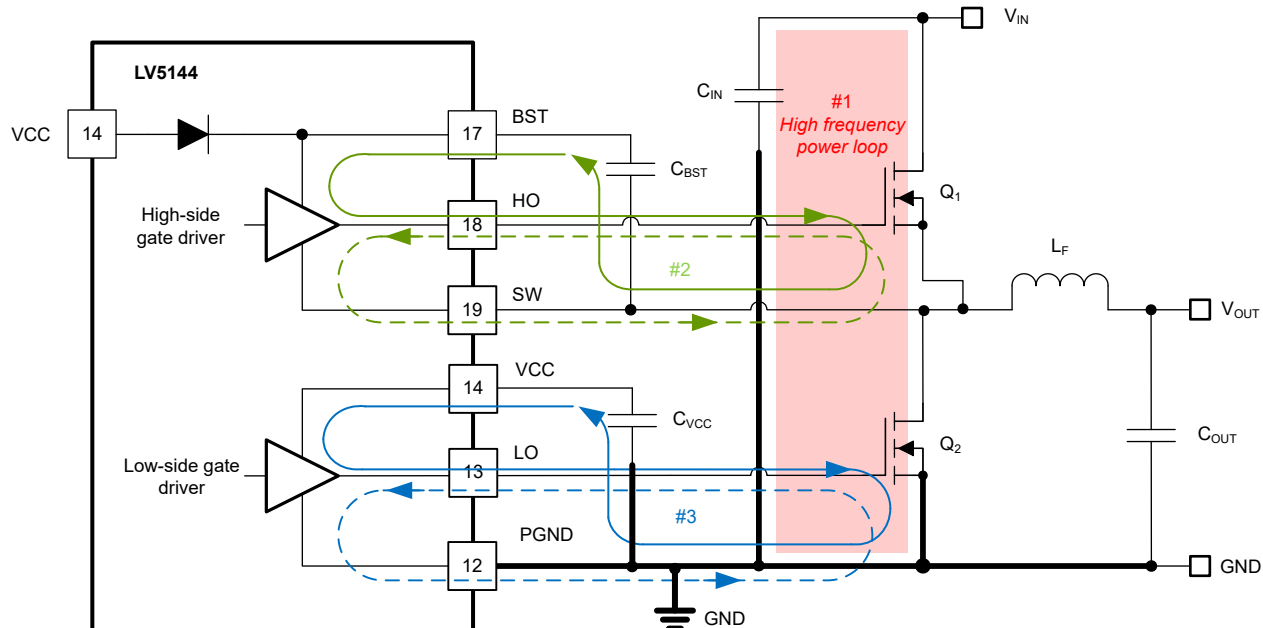

Figure 9-33. DC/DC Regulator Ground System With Power Stage and Gate Drive Circuit Switching Loops
Proper PCB design and layout is important in a high-current, fast-switching circuits (with high current and voltage slew rates) to assure appropriate device operation and design robustness. As expected, certain issues must be considered before designing a PCB layout using the LV5144. The high-frequency power loop of the buck converter power stage is denoted by #1 in the shaded area of Figure 9-33. The topological architecture of a buck converter means that particularly high di/dt current flows in the components of loop 1, and it becomes mandatory to reduce the parasitic inductance of this loop by minimizing its effective loop area. Also important is the gate drive loops of the low-side and high-side MOSFETs, denoted by 2 and 3, respectively, in Figure 9-33.
- Loop #1: The most important loop to minimize the area of is the path from the input capacitor or capacitors through the high- and low-side MOSFETs, and back to the capacitor or capacitors through the ground connection. Connect the input capacitor or capacitors negative terminal close to the source of the low-side MOSFET (at ground). Similarly, connect the input capacitor or capacitors positive terminal close to the drain of the high-side MOSFET (at VIN). Refer to loop #1 of Figure 9-33.
5. The SW pin connects to the switch node of the power conversion stage and acts as the return path for the high-side gate driver. The parasitic inductance inherent to loop #1 in Figure 9-33 and the output capacitance (C_{OSS}) of both power MOSFETs form a resonant circuit that induces high frequency (> 100 MHz) ringing on the SW node. The voltage peak of this ringing, if not controlled, can be significantly higher than the input voltage. Ensure that the peak ringing amplitude does not exceed the absolute maximum rating limit for the SW pin. In many cases, a series resistor and capacitor snubber network connected from the SW node to GND damps the ringing and decreases the peak amplitude. Provide provisions for snubber network components in the PCB layout. If testing reveals that the ringing amplitude at the SW pin is excessive, then include snubber components as needed.
- Loop 2: high-side MOSFET, Q_1 . During the high-side MOSFET turnon, high current flows from the bootstrap (boot) capacitor through the gate driver and high-side MOSFET, and back to the negative terminal of the boot capacitor through the SW connection. Conversely, to turn off the high-side MOSFET, high current flows from the gate of the high-side MOSFET through the gate driver and SW, and back to the source of the high-side MOSFET through the SW trace. Refer to loop #2 of Figure 9-33.
- Loop 3: low-side MOSFET, Q_2 . During the low-side MOSFET turn-on, high current flows from the VCC decoupling capacitor through the gate driver and low-side MOSFET, and back to the negative terminal of the capacitor through ground. Conversely, to turn off the low-side MOSFET, high current flows from the gate of the low-side MOSFET through the gate driver and GND, and back to the source of the low-side MOSFET through ground. Refer to loop #3 of Figure 9-33.